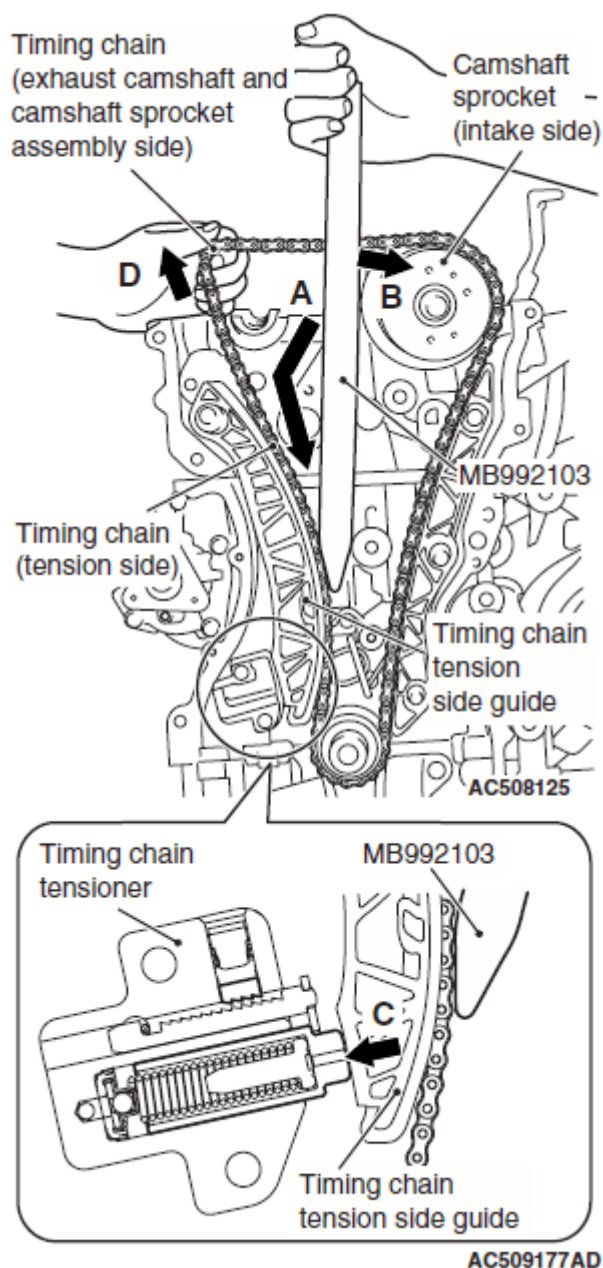

Fig. 55: Removing Flat-Tipped Precision Screwdriver Unlocking Timing Chain Tensioner
3. With the timing chain tensioner unlocked, insert special tool MB992103 inside the timing chain case assembly along the tension side of the timing chain until the insertion guide line aligns with the upper surface of the timing chain case assembly (**Fig. 55**.)
4. With the special tool inserted up to the insertion guide line, press the special tool MB992103 against the intake side camshaft sprocket (**Fig. 55**) and spread and hold the timing chain tension side guide (**Fig. 55**.)
6. Pull up the camshaft and camshaft sprocket assembly (exhaust side) mounting area of the timing chain (**Fig. 55**) to provide allowance for easy installation of the camshaft and camshaft sprocket assembly (exhaust side) to the timing chain.